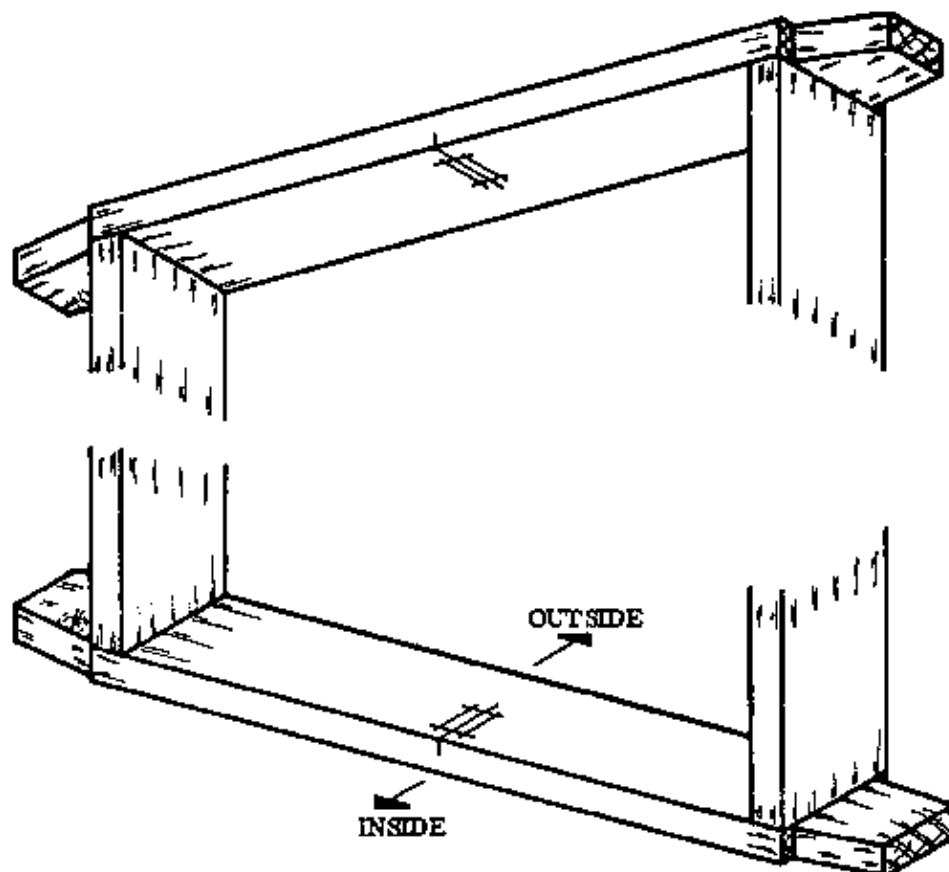

Fig. 1
b. Mark out the position of the metal mullion on the head and cill. Keep in mind the position of the mosquito wire (Fig. 1).